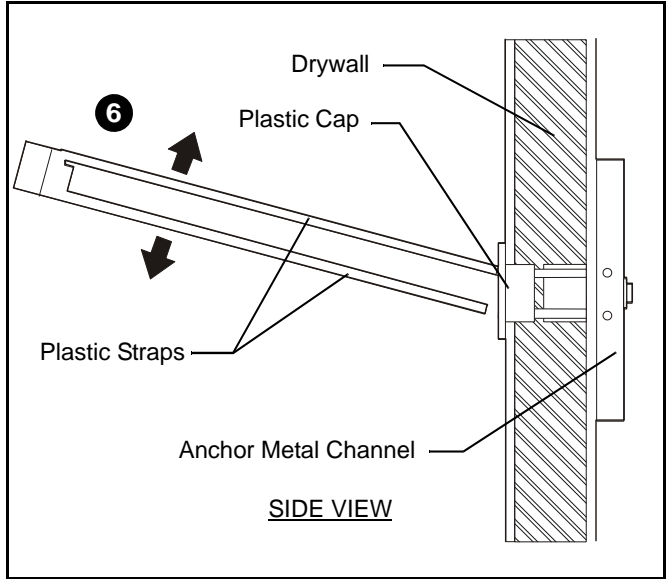

Figure 6
6. Snap off plastic straps on anchor at wall by pushing side to side, snapping off straps level with flange of plastic cap. (See Figure 6)
8. Place wall track accessory over anchors and align mounting holes in display mount with holes in anchors. (See Figure 6)